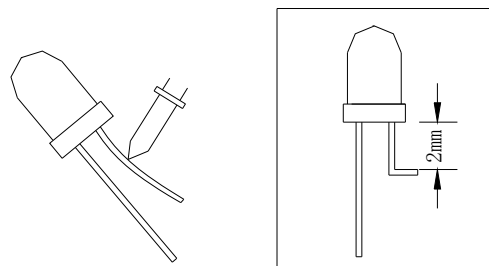

Fig. 7
1) The lead should be bent at a point located at least 2mm away from the package. Bending should be performed with base fixed means of a jig or pliers (Fig.7)
支架需要在离胶体至少 2 毫米的地方折弯，折弯的时候底部要用夹具或者钳子固定。（见图 7）